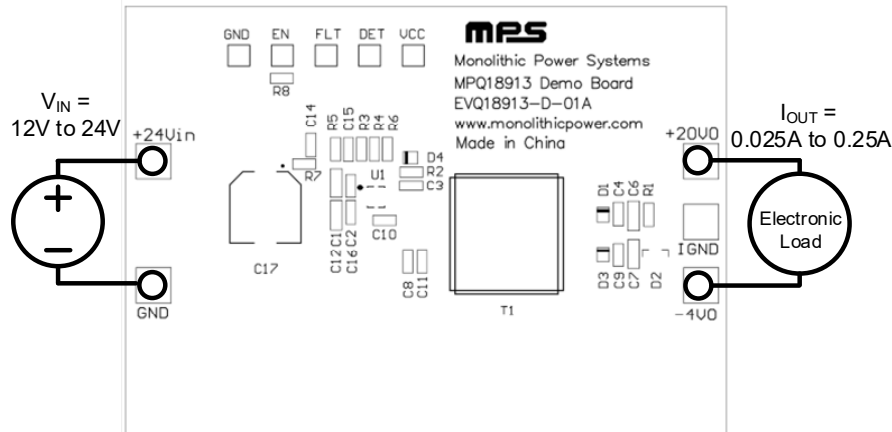

Figure 1: Measurement Equipment Set-Up
1. Preset the power supply (V_{IN}) between 12V and 24V, then turn off the power supply (see Figure 1).